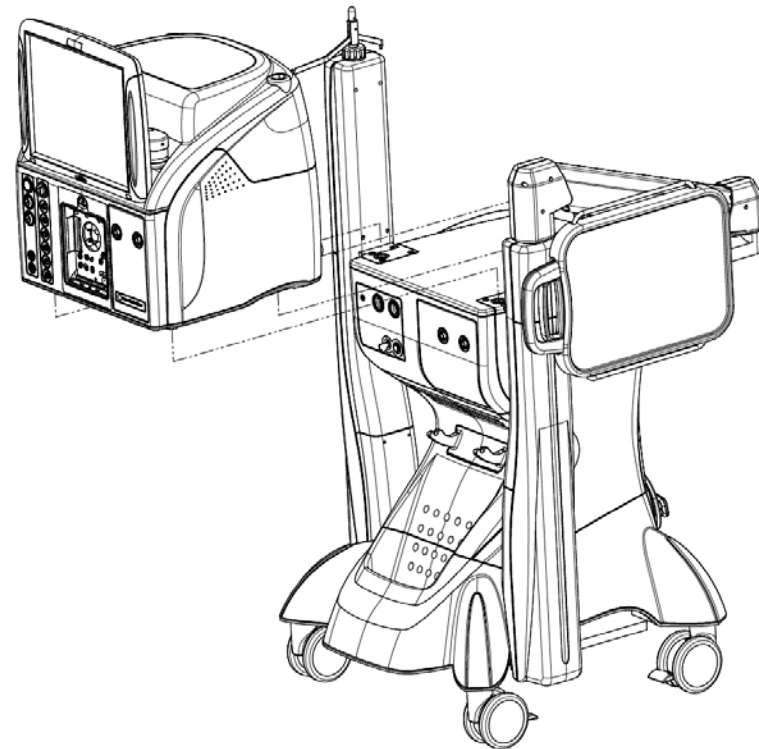

Figure 7-9. Table Top Placement on Base Console
24. Using at least two people, lift Table Top from pallet and place on base console as shown in Figure 7-9. Ensure that four bolts extending from bottom of table top go into four holes in top of base console.